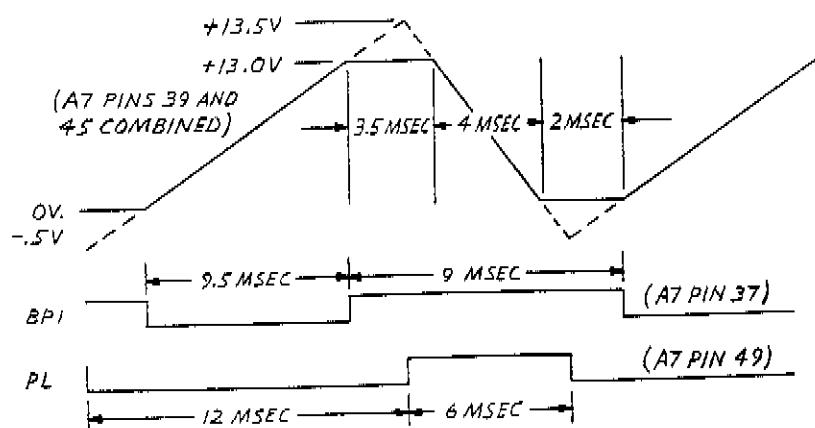

Figure C3-30B. A2A7 Sweep Generator, Timing Diagram
The penlift and blanking circuits generate the blanking pulse (BP1), the penlift (PL), and clamps the voltage ramp out of the Integrator to the desired full sweep voltage range of 0 to  $+13V$ . U9C operates as a clamp which actuates when the sweep output V SW1 goes above  $+13V$ . U9D likewise clamps V SW1 to above 0 volts. The outputs of U9C and U9D are "ORed" together with the retrace signal from the output of U14C to provide the blanking function. The inverted retrace command is used as the penlift command. The output signals of U9C and U9D produce the waveforms shown in Figure C3-30B.